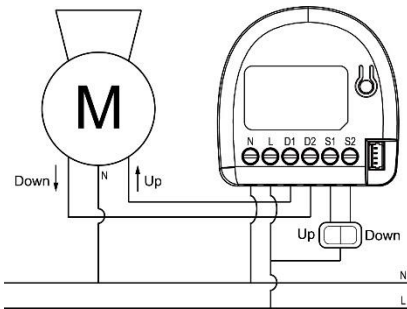

Figure 1. Roller Shutter wiring diagram
- Connect the motor of Roller Shutter and Switch in accordance with the wiring diagram presented on Fig. 1 (roller blinds, venetian blinds).